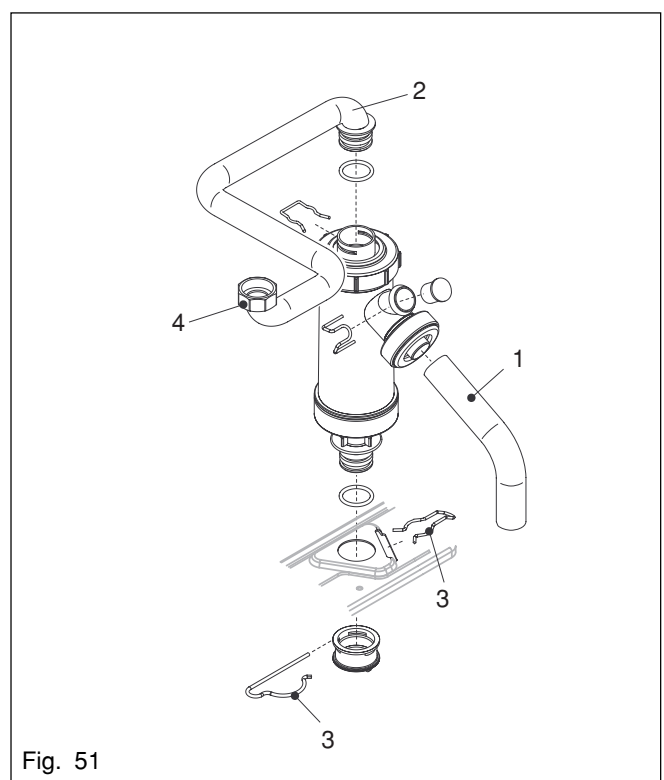

Fig. 51
6.29 CONDENSE TRAP REMOVAL (see fig. 51)